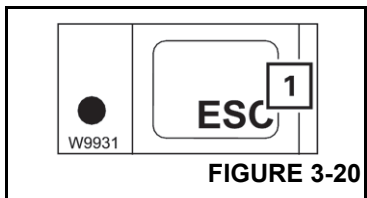

FIGURE 3-20
To exit the Error submenu, press the **Esc** button (1) (Figure 3-20) once. The same menu opens that was open before the Error submenu opened.